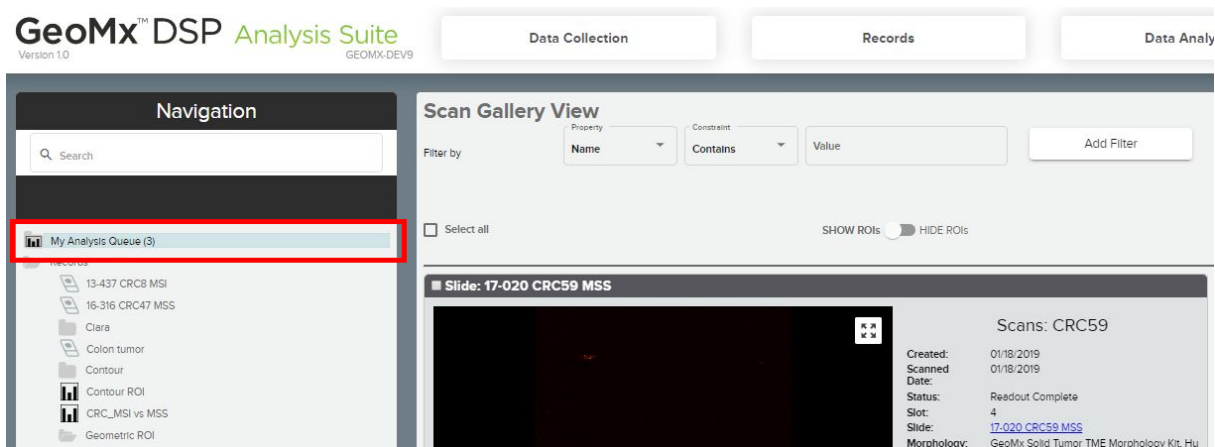

Figure 5: My Analysis Queue view
6. To view or edit the Queue, select the **My Analysis Queue** folder from the top row of the Navigation window (see Figure 5).
Use slide and scan metadata to filter scans. Select search parameters from the dropdowns in the upper left of the window (see Figure 5): Property (name), Constraint (contains), and Value (customizable field). Select **Add Filter** to apply a filter rule. Applied filter rules will appear as gray boxes under the filter field. Use the **X** on each box to remove that filter, if desired. Select **Clear Filters** to clear all applied filter rules.
Select all scans using the check box "Select all" in the header (see Figure 5). Alternatively, select one scan at a time using the check box in each scan's upper left corner.